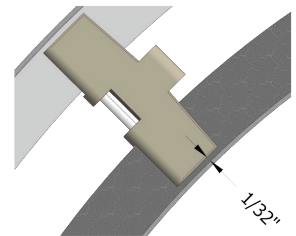

Figure 3
- ▶ Inside turn - When edge of chain is  $\frac{1}{32}$ " or less from inside edge of frame, it is time to replace wearstrip (Figure 3)